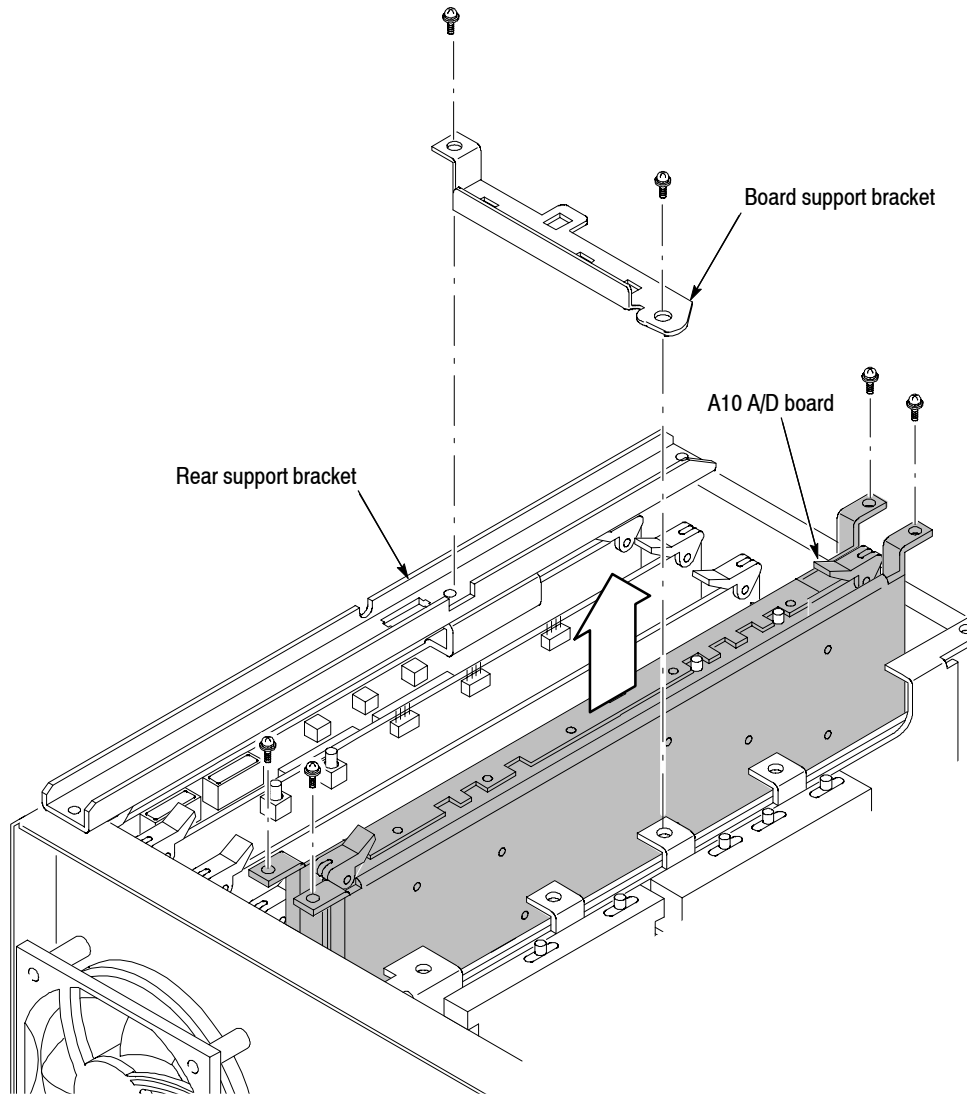

Figure 4: Removing the A10 A/D board
2. *Remove the board support bracket:* See Figure 4 below.
4. *Remove the A10 A/D board:* See Figure 4 on page 6.